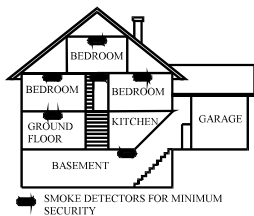

*Figure 1: Locations for placing smoke detectors for single residence with only one sleeping area*
- ◆ Install a smoke and heat detector in the hallway outside every separate bedroom area, as shown in Figure 1. Two detectors are required in homes with two bedroom areas, as shown in Figure 2.